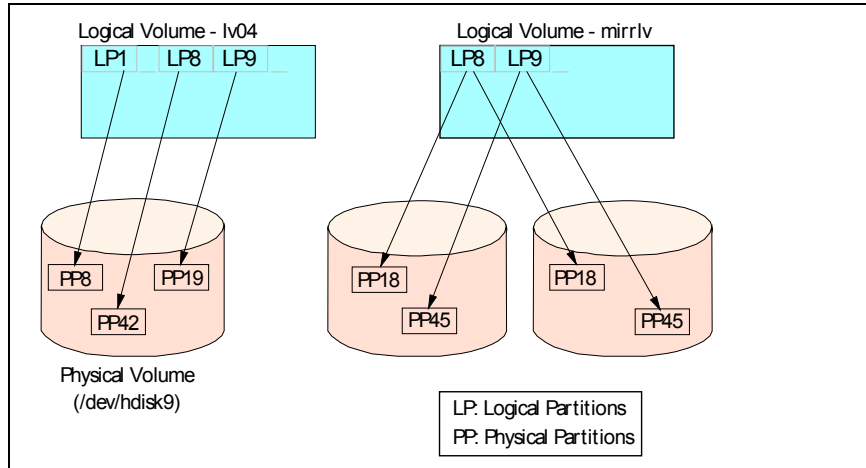

Figure 2-26 Relationships between LP and PP
- ▶ Every physical volume in use belongs to a volume group (VG) unless it is being used as a raw storage device.
- ▶ Each logical volume consists of one or more logical partitions (LPs). Each logical partition corresponds to at least one physical partition (see Figure 2-26 on page 62). If mirroring is specified for the logical volume, additional physical partitions are allocated to store the